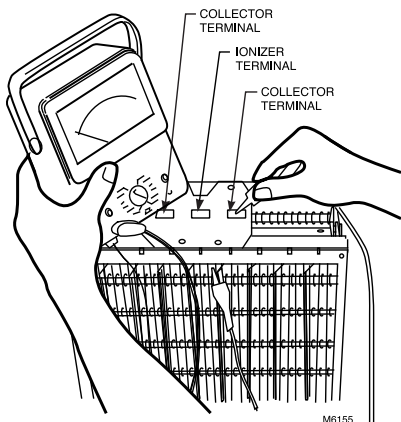

Fig. 23. Use ohmmeter to check electronic cells for short circuits.
- Test meter with 15 kVdc probe or equivalent. The electronic air cleaner troubleshooting charts, Fig. 21 and 22, show how to quickly isolate a problem in the air cleaner. Although a meter is needed for some steps, see Fig. 23, the primary diagnostic tools are the neon light and the test button.